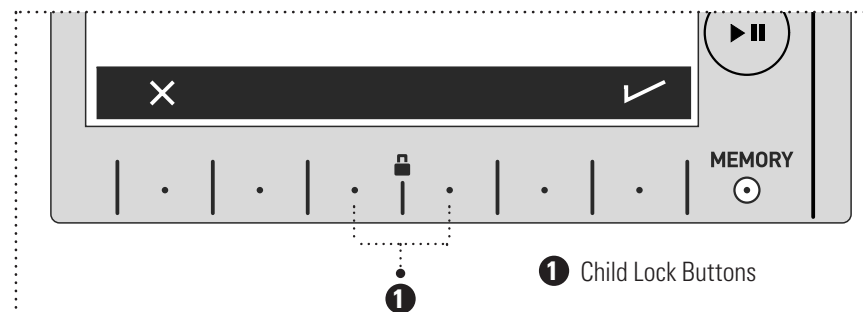

Figure 23
- » To activate the child lock, press the 2 buttons shown in fig 23 simultaneously for a minimum of 3 seconds.